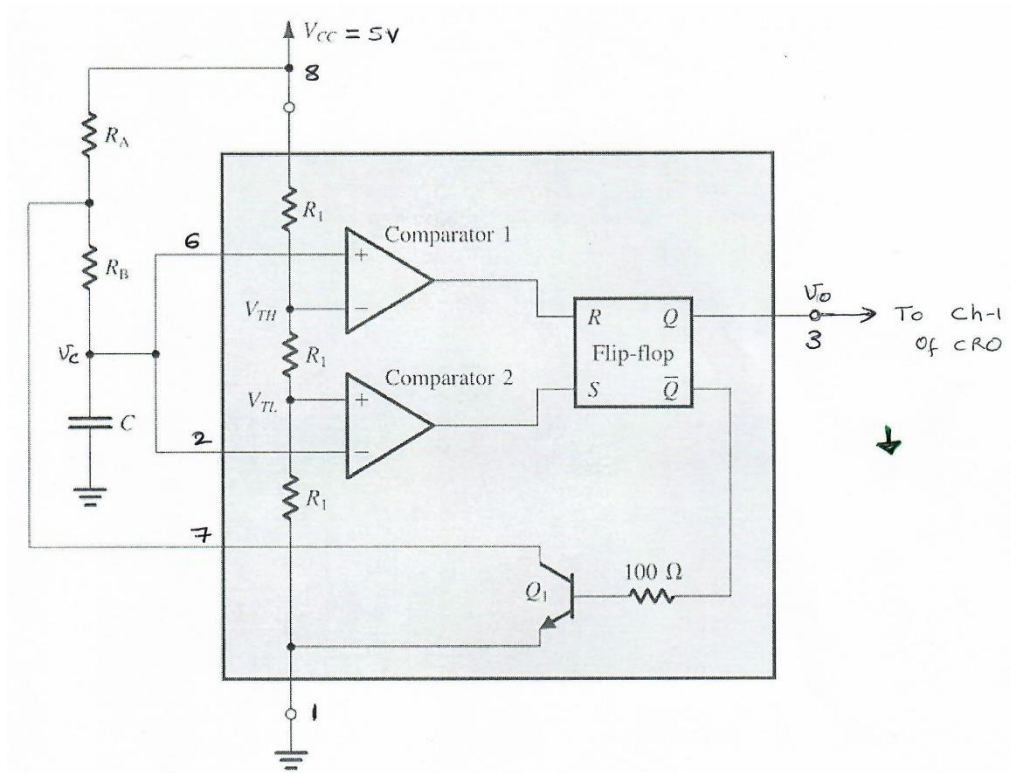

Fig. 3 Astable Multivibrator using 555 Timer
1. Connect the circuit as shown in Fig. 3 with $R_A = 1\text{ k}\Omega$, $R_B = 10\text{ k}\Omega$, $C = 0.1\text{ }\mu\text{F}$ and $V_{CC} = 5\text{ V}$.
1. Connect the circuit as shown in Fig. 3 with $R_A = 1\text{ k}\Omega$, $R_B = 10\text{ k}\Omega$, $C = 100\text{ }\mu\text{F}$ and $V_{CC} = 5\text{ V}$.